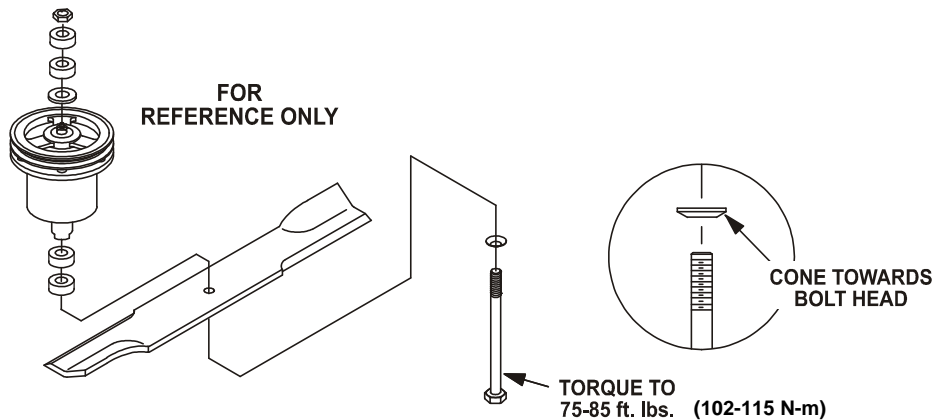

FIGURE 8
- g) Re-install the blades (if they were removed) and torque blade bolts to 75-85 ft. lbs. (102-115 N-m). Be sure the spring disk washer cone is installed toward the bolt head (See Figure 8).